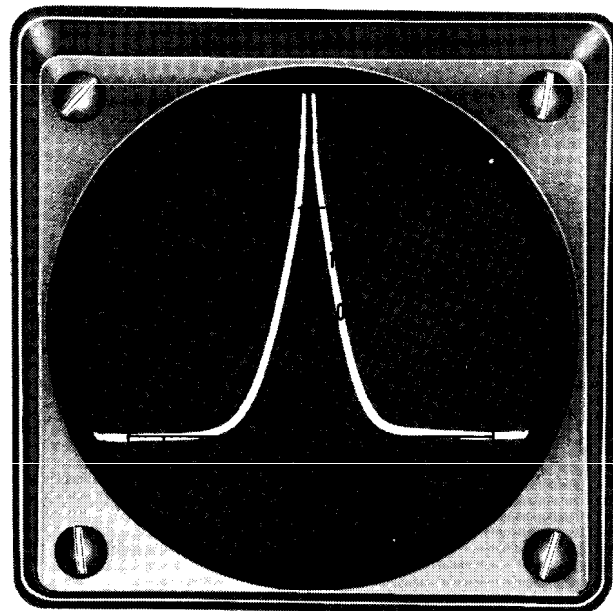
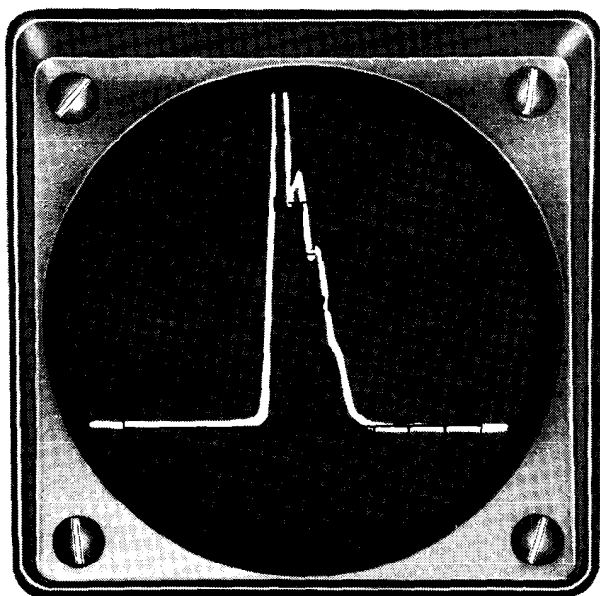

Figure 10
Figure 11
- () Compare the pip on the CRT screen with the pip shown in Figure 10. If there is any ringing or flyback on either side of the pip, as shown in Figure 11, adjust the core of transformer T1 to minimize it. Only a slight adjustment should be necessary from the factory preset position.